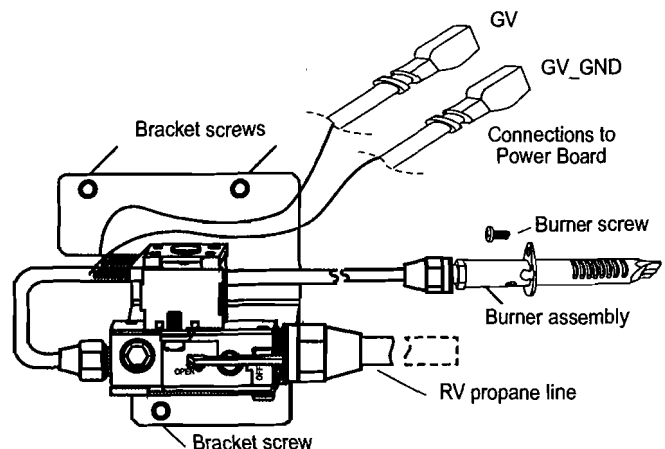

Figure 19. Gas valve connections and screws.
3. Fasten the gas valve bracket to the back plate with three 8-32 x 1 inch hex head screws using a 1/4 inch nut driver. Tighten each screw 15 to 20 inch-pound. See Figure 19.
4. Reconnect one gas valve solenoid wire to power board terminal **GV** and the other to **GV_GND**. See Figure 19.